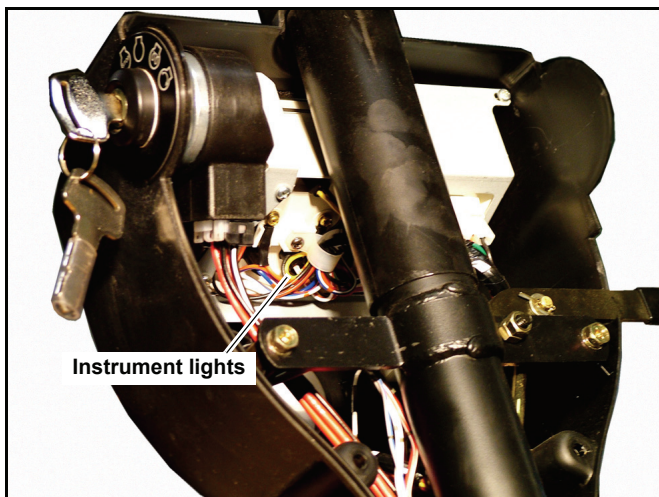

Figure 4-9
4. Turn the burned out bulb together with the socket half a turn counterclockwise and pull it out. Figure 4-9